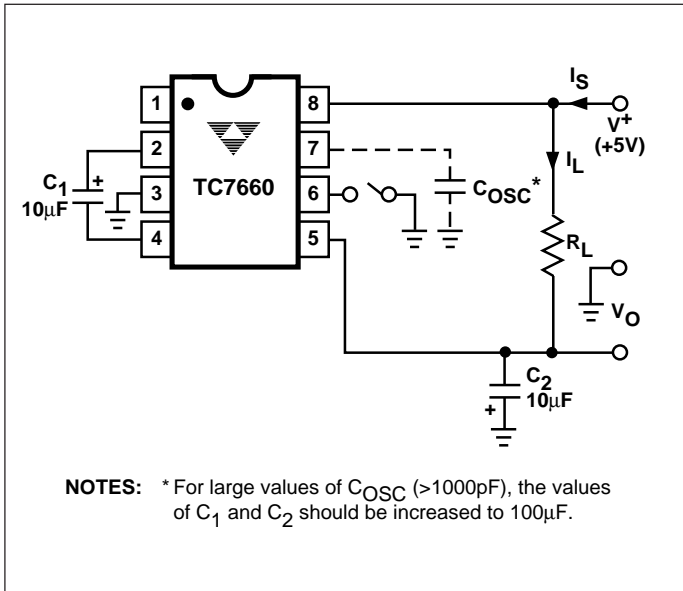

Figure 1. TC7660 Test Circuit
**ELECTRICAL CHARACTERISTICS:** Specifications Measured Over Operating Temperature Range With, V+ = 5V, COSC = 0, Test Circuit (Figure 1), unless otherwise indicated.
## TYPICAL PERFORMANCE CHARACTERISTICS (Circuit of Figure 1)